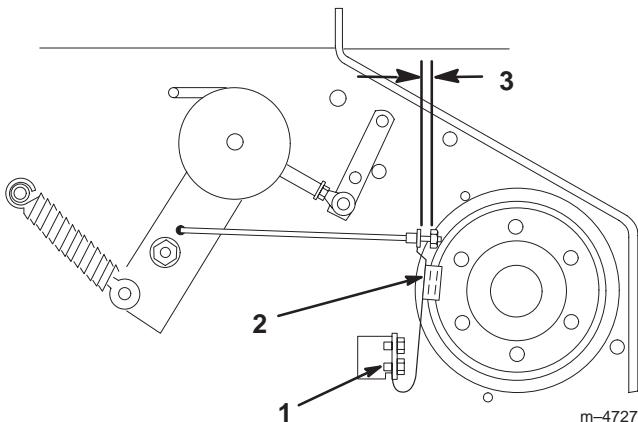

Figure 54
3. If necessary, adjust the spring mounting bolts so that the blade brake pad rubs against the pulley edges (Fig. 54).
4. Adjust the nut at the end of the blade brake rod until there is 1/8–3/16 inch (3mm–5mm) between the nut and spacer (Fig. 54).